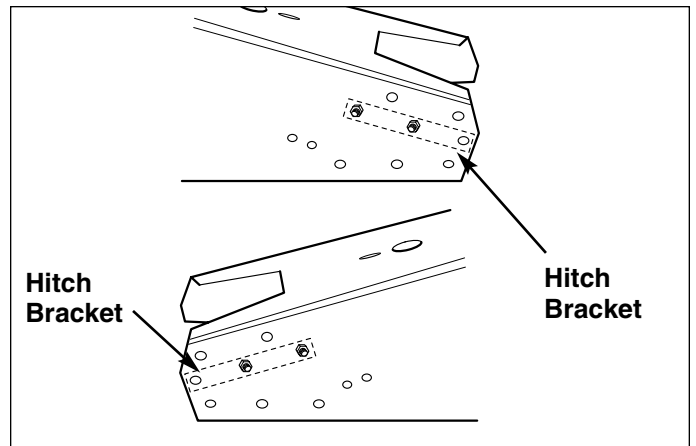

Figure 7. Hitch Bracket Locations
- Relocate the mounting brackets in the positions shown in Figure 7.